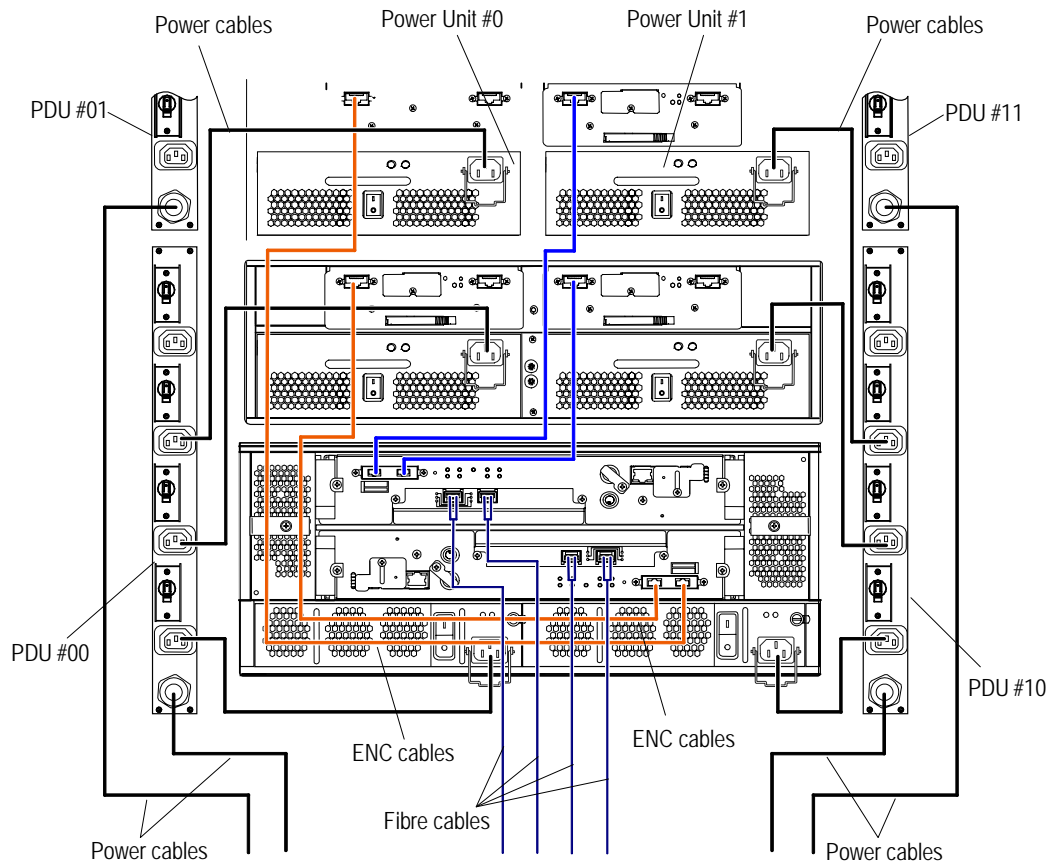

Figure 2.6 Sample Power Cable Connectivity of the AMS/WMS Subsystem in the Rack
- c) Connect any applicable cables (AMS/WMS subsystem interconnect cables, power cables, etc.) according to the installation manual included with the AMS/WMS subsystem RKM shipment. (See Figure 2.6)